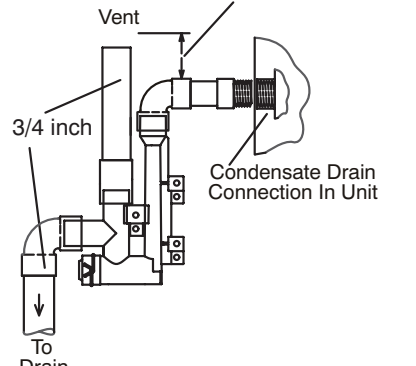

FIGURE 43
Install the cap over the clean out opening at the base of the trap. Secure with clamp. See FIGURE 43.
- 3 - Install drain trap using appropriate PVC fittings, glue all joints. Glue the provided drain trap as shown in FIGURE 43. Route the condensate line to an open drain.